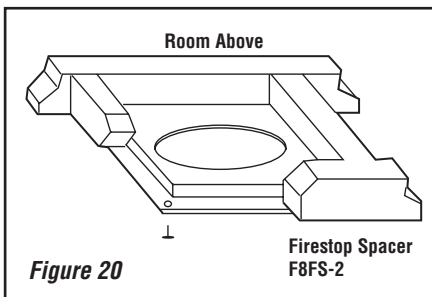

Figure 20
**Note:** If there is a room above ceiling level, firestop spacer must be installed on the bottom side of the ceiling. If an attic is above ceiling level, firestop spacer must be installed on top side of ceiling joist (Figure 20).